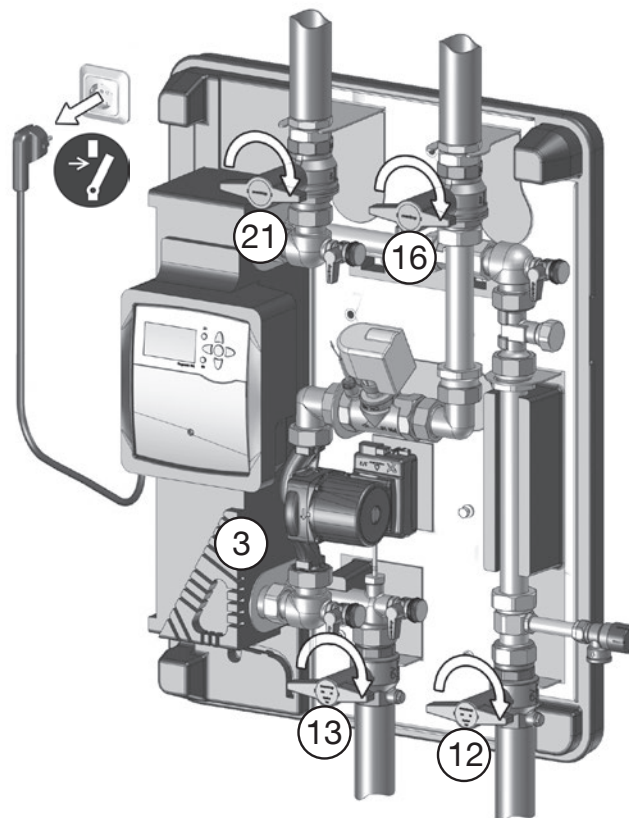

Fig. 5.1: Disconnect the controller from the power supply and close the ball valves
2. **Close the isolating ball valves (12 and 13)** (potable water circuit) **and (16 and 21)** (storage cylinder circuit) (Fig. 5.1).
2. **Close the isolating ball valves (12 and 13) (potable water circuit) and (16 and 21) (storage cylinder circuit)** (see Fig. 5.1 on page 31).